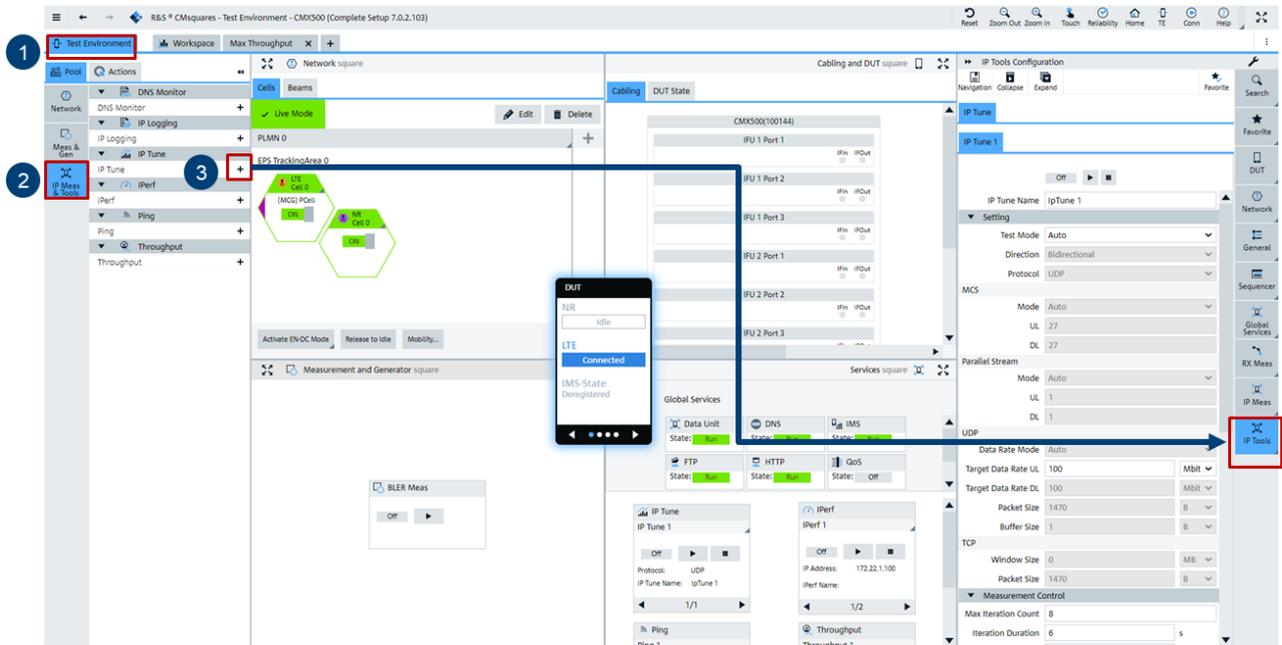

Figure 68 Enable and populate IP tune service in CMsquares
3. Follow the steps shown in Figure 68 to enable IP Tune service in case the service is not populated in CMsquares